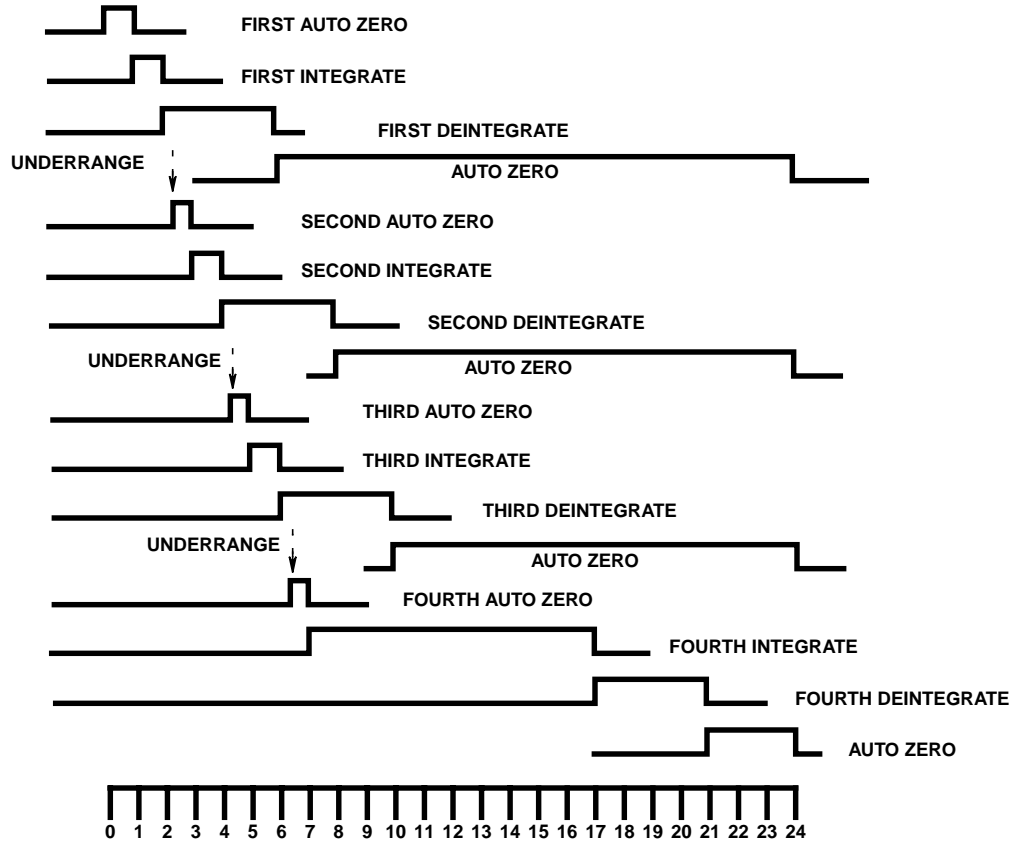
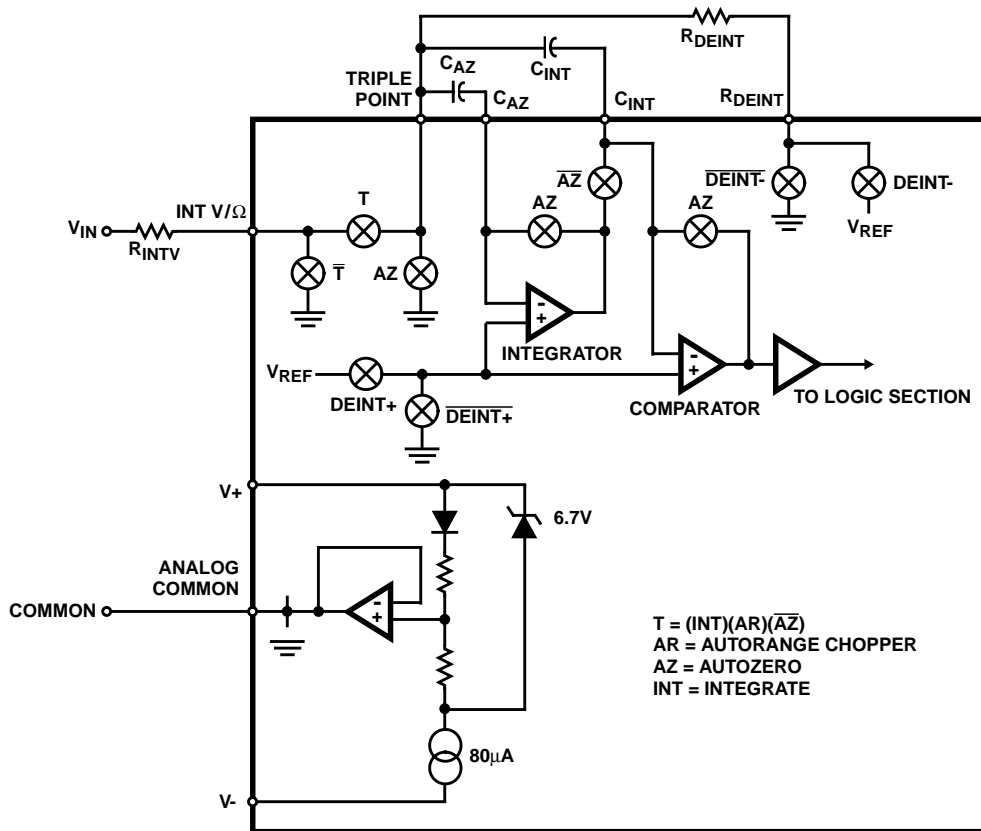

FIGURE 1. LINE FREQUENCY CYCLES (1 CYCLE = 1000 INTERNAL CLOCK PULSES = 2000 OSCILLATION CYCLES)
FIGURE 3. DETAILED CIRCUIT DIAGRAM FOR DC VOLTAGE MEASUREMENT
**Electrical Specifications** V+ = 9V, TA = 25°C, VREF adjusted for -3.700 reading on DC volts, test circuit as shown in Figure 3.
Only those portions of the analog section which are used during DC voltage measurements are shown in Figure 3. As shown in the timing diagram (Figure 1), each measurement starts with an autozero (AZ) phase. During this phase, the integrator and comparator are configured as unity gain buffers and their non-inverting inputs are connected to Common. The output of the integrator, which is equal to its offset, is stored on CAZ - the autozero capacitor. Similarly, the offset of the comparator is stored in CINT. The autozero cycle equals 1000 clock cycles which is one 60Hz line cycle with a 120kHz oscillator, or one 50Hz line cycle with a 100kHz oscillator.